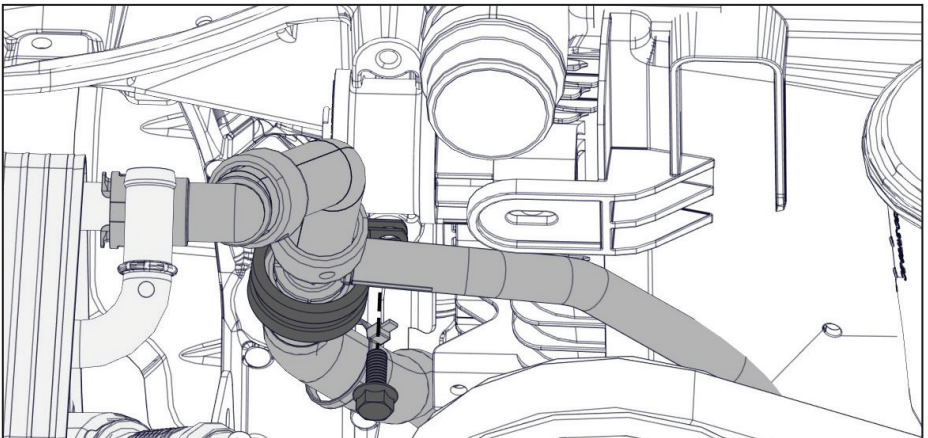

Figure 90 — Installing the CAC hoses
- ☐ Using the supplied P-clip and OEM fastener, secure the front CAC tube to the radiator vibration mount (if necessary, deflect the hard line cooling hose at the frame clip to account for the new routing) (Figure 90).
- ☐ Install the quick connect onto the CAC (Figure 90).